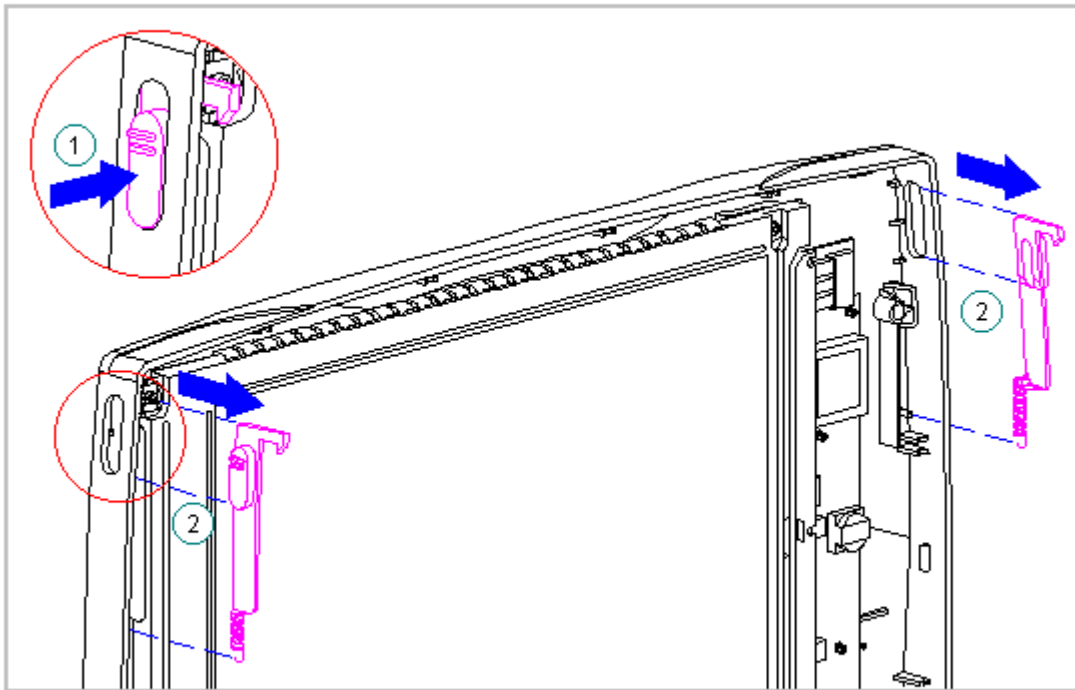

Figure 3-80. Removing the Display Latch from the Display Enclosure (All Models)
4. Hold the bottom of the latch near the spring. Flex the hook end of the display latch away from the display enclosure [1] (Figure 3-80).
5. Pull the display latch from the top, then out of the display enclosure [2] (Figure 3-80).